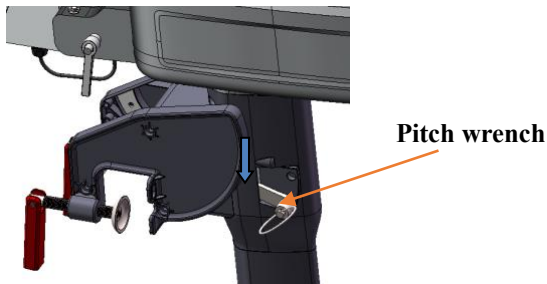

Figure 3-9
1. Grip the machine by hand, pull out the Pitch Wrench from the hole, and lift it up, as shown in Figure 3-9.